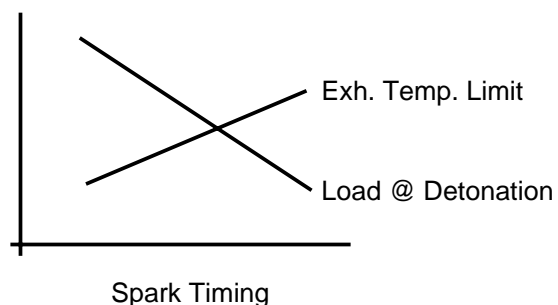

Figure 1.
2. At the exhaust oxygen determined in Step 1, vary the timing and determine the load at detonation. Reset the engine to 0.5% exhaust Oxygen. This is where the exhaust temperatures are at their maximum. As the load is decreased, note the load at the point where the exhaust port temperature meets the rating guideline. Do this at constant intake manifold temperature, jacket water temperature and fuel Methane Number. The resulting diagram is shown in Figure 1.